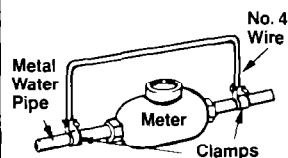

Figure 4
*Grounded cold water pipe must have metal continuity to electrical ground and not be interrupted by plastic, rubber or other electrical insulating connectors such as hoses, fittings, washer or gaskets (including water meter or pump). Any electrical insulating connector should be jumped as shown in Figure 4 with a length of No. 4 wire securely clamped to bare metal at both ends.